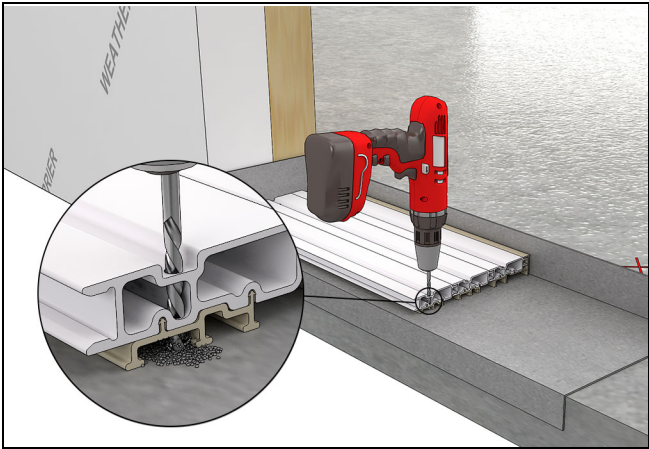

Figure 7
3. Set the sill slope in the slot at the desired location. Using the pre-drilled holes in the sill slope as a guide, drill through both walls of the sill slope and into the optional pre-panning and substrate. See Figure 7 and Figure 7.